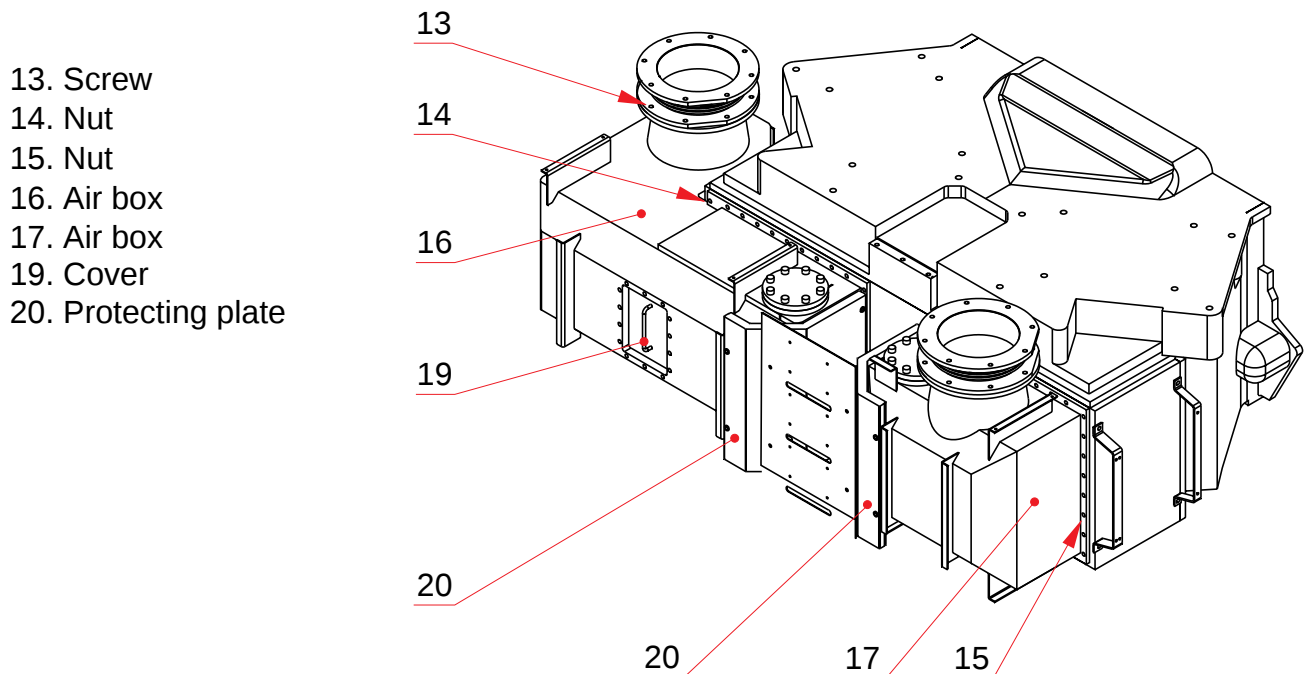

Fig 15-5
- 6** Unscrew and remove the screws (13), see Fig 15-5. Ensure that there is a gap (approx. 2 - 5 mm) between the bellows and the turbocharger ducts.
- 7** Open the inspection cover (19), loosen and remove the nuts inside.
- 8** Remove the nuts (14) and (15) of the air inlet boxes (16) and (17), after making proper arrangement to support the boxes.
- 9** Mount eye bolts with straps on the top of the air inlet boxes (16) and (17). Prepare lifting of the box with a crane.